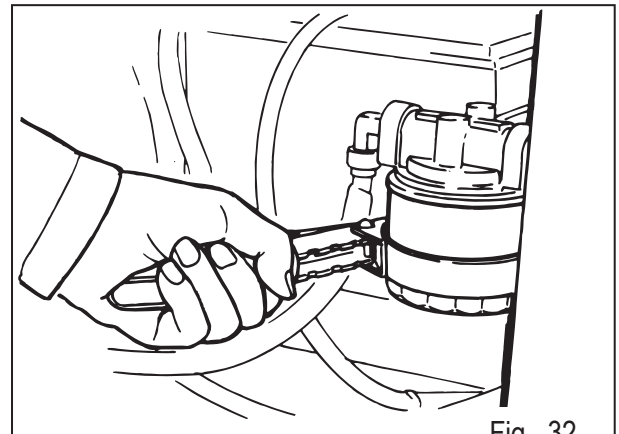

Fig. 32
- Oil filter replacement (Fig.32)**